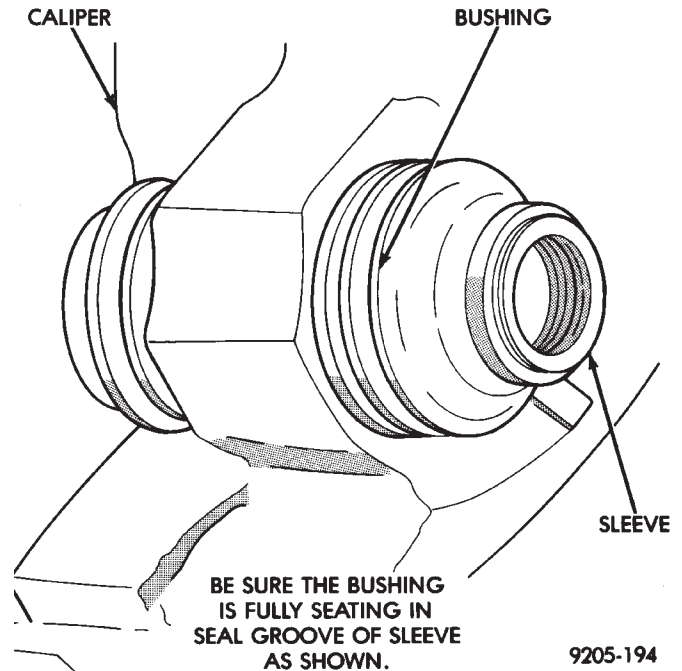

Fig. 13 Installed Caliper Bushing Sleeve
(2) Holding the convoluted end of the bushing with one hand. Push the sleeve through the bushing (Fig. 13) until the one end of the bushing is fully seated into the seal groove on the one end of the sleeve.
(3) Holding the sleeve in place work the other end of the bushing over the end of the sleeve and into the seal groove (Fig. 13). Be sure the other end of the bushing did not come out of the seal groove in the sleeve.